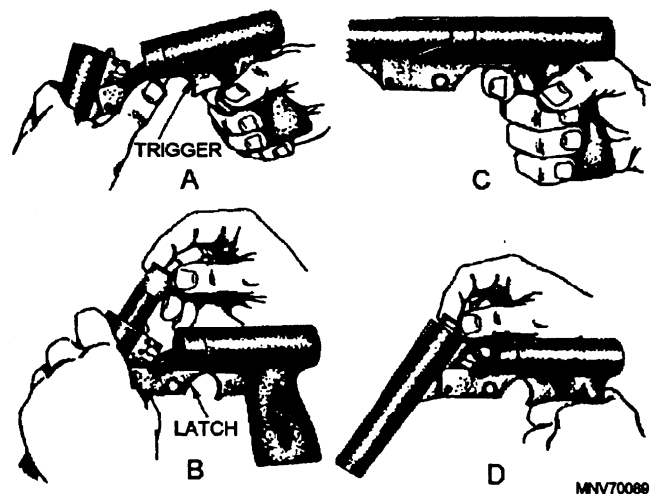

Figure 3-5.—Operation of the Mk 5 pyrotechnic pistol.
1. To load the pistol, depress the latch button below the barrel. At the same time, pull the barrel downward, as shown in figure 3-5, view A. Insert the signal shell (view B). Bush the barrel upward until it latches in the closed position. The pistol is now ready to fire.
2. To fire the pistol, aim it upward at the desired angle, normally 60 degrees, but clear of other ships or personnel. Pull the trigger, as shown in figure 3-5, view C. Keep your elbow slightly bent when firing to absorb the shock of recoil and to prevent the pistol from knocking itself out of your hand.